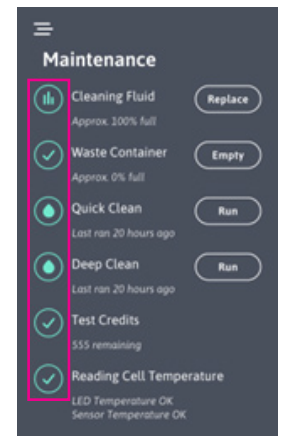

Figure 21
The Maintenance Menu provides a “dashboard” for the user related functions for miniSED. The circular icons with the green check mark indicate that the listed category is within preset limits. When a miniSED category is approaching a preset limit, the circular icon will turn yellow indicating attention is needed soon. Should the category limit be exceeded, the icon will turn red and require action to be taken. In Figure 21, displayed icons, top to bottom are:
1. In the “Cleaning Fluid” and “Waste Container” categories, selecting the “Replace” button will reset the counters (Figure 21).